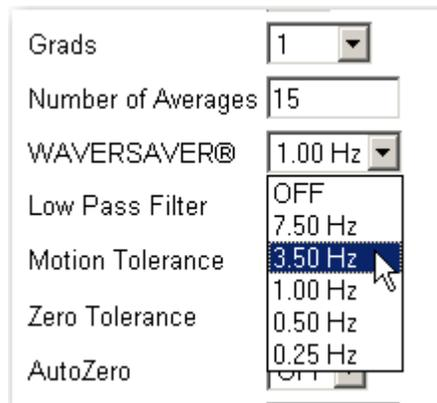

FIG. 195 INSTRUMENT SETUP/SELECTING WAVERSAVER PARAMETER
Step 1. Click on the WAVERSAVER pull down menu. (See Fig. 195)